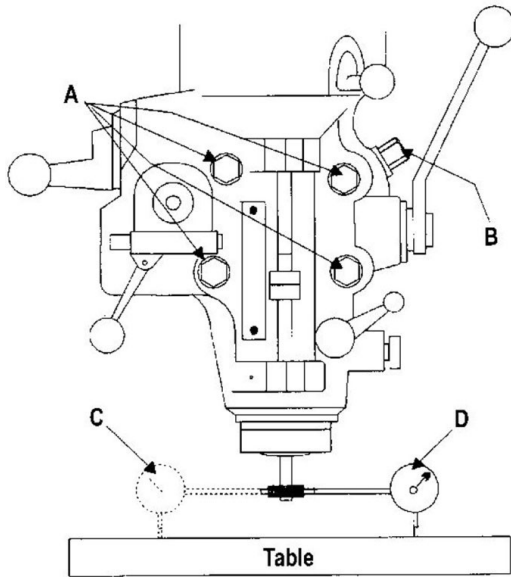

Figure 10-5: Test perpendicularity
3. Tighten the four hexagonal nuts (A). Tighten in two steps using a calibrated torque wrench. Use a crossing pattern to tighten the nuts. Tighten initially to 25 foot-pounds.
5. Set up a dial indicator in a collet and secure using draw bar (see Figure 10-5).
3. Set up a dial indicator in a collet and secure using draw bar (see Figure 10-5).